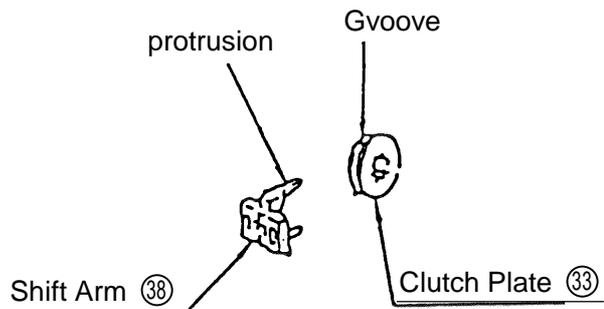

Fig. 19
- (i) Confirm that the claw portion of the Shift Arm ㉞ is properly engaged with the matching groove on the Clutch Plate ㉝. (Fig. 19)
(5) Other Precautions in Assembly: